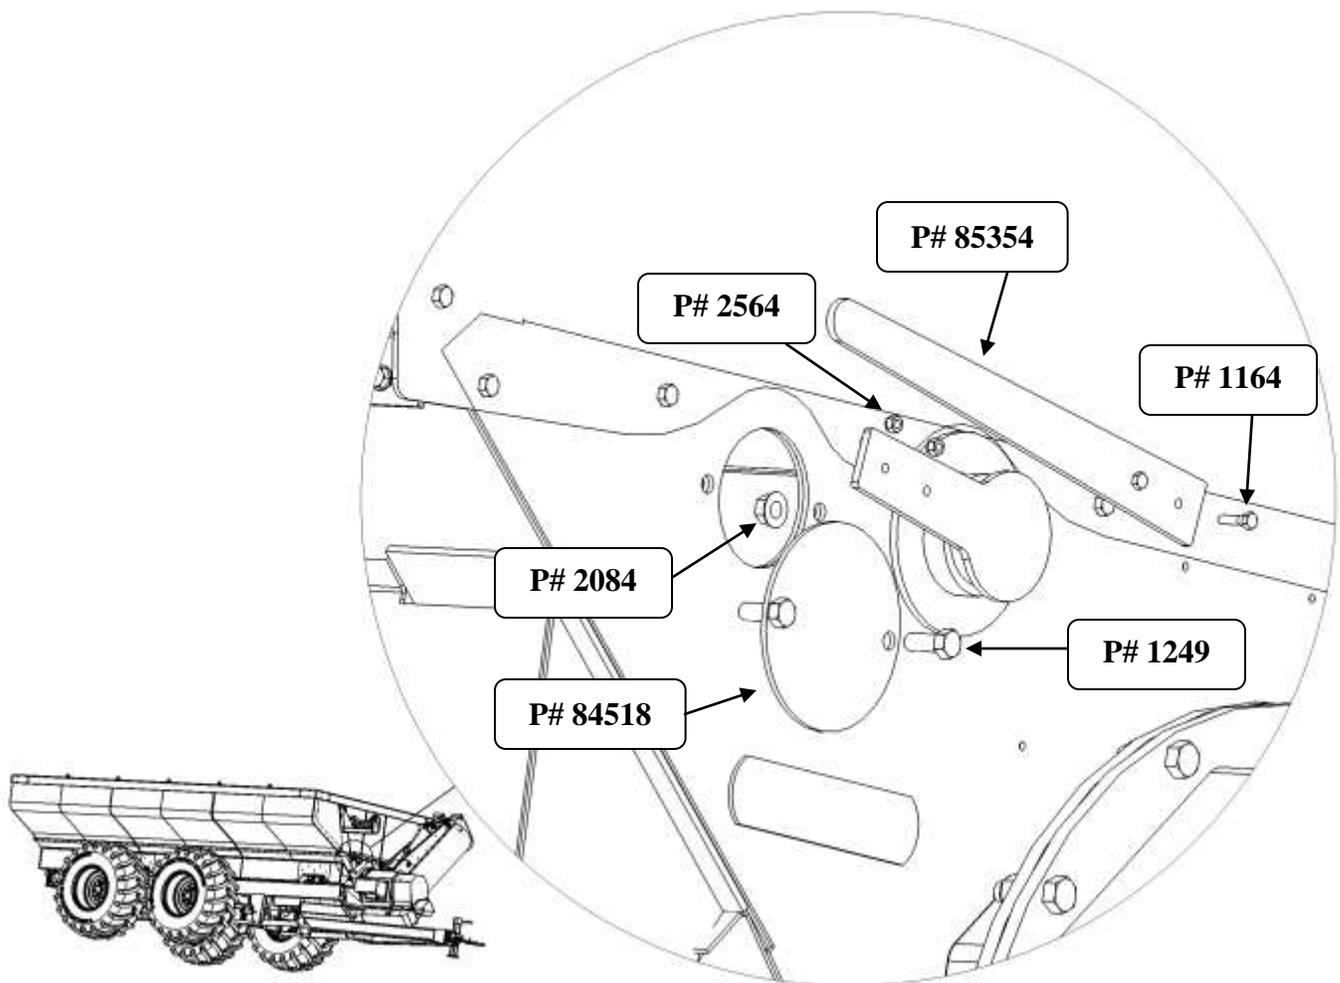
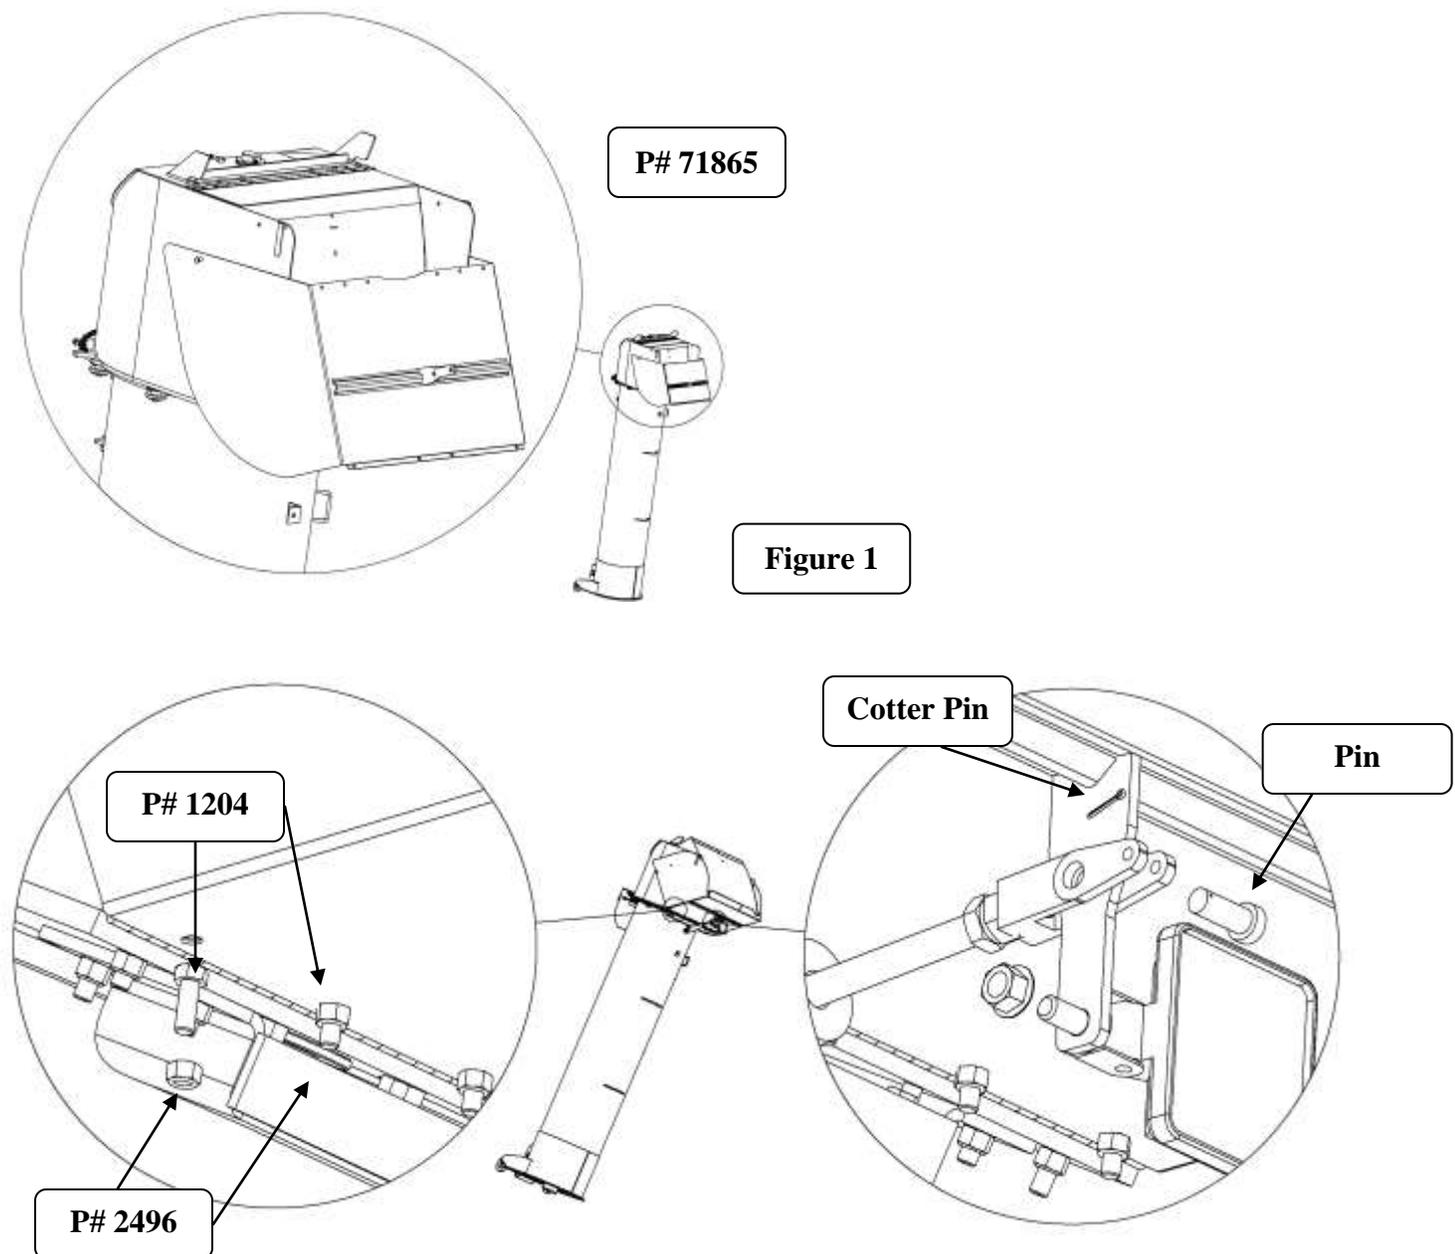

Figure 1
Figure 2
Position grain door indicator P# 85354 and secure with bolts P# 1164 and toplock nuts P# 2564. See Figure 1. Install the four (4) circular access covers P# 84518 using bolts P# 1249 and whiz nuts P# 2084 tighten securely. There are two located at both front and rear of cart. See Figure 1.
Remove hardware holding auger upper flap. See Figure 1. Raise upper flap out of the way. Align lower auger targetable downspout P# 71865 to hinge and attach with bolts P# 1204 and lock nuts P# 2496. See Figure 2. Remove pin in auger lift cylinder. Align cylinder with bracket on lower flap and insert pin and secure with cotter pin. Attach work light with supplied hardware. See Figure 2.